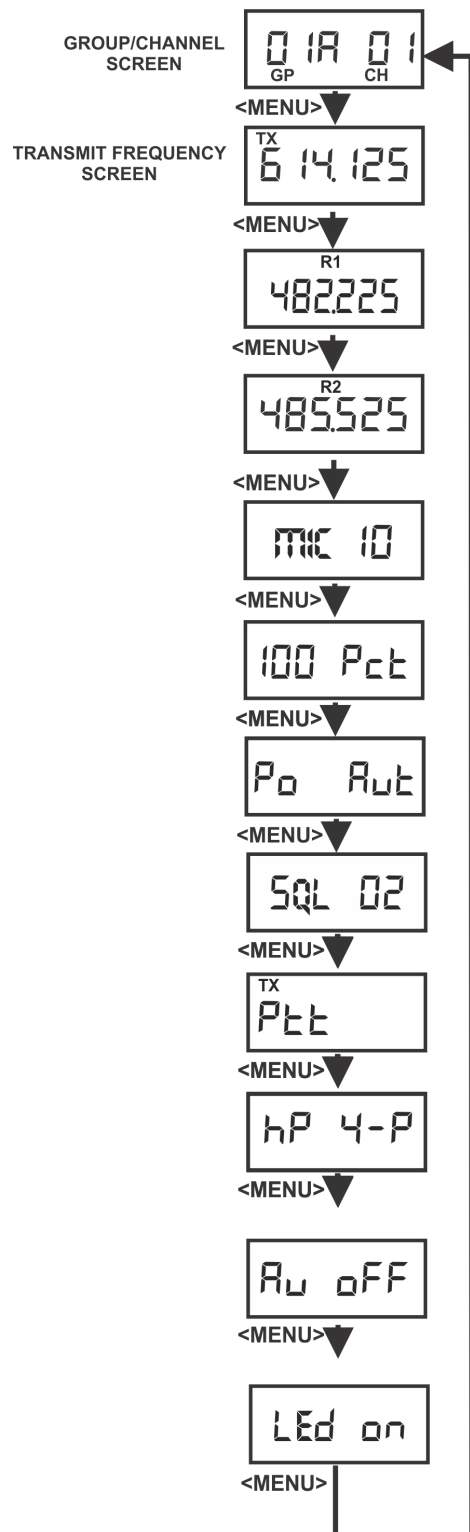

FIGURE 78. Group/Channel and Transmit Screen
*See Groups and Channels Instructions. The menu structure in Figure 78 indicates how to get to the transmit frequency screen.*